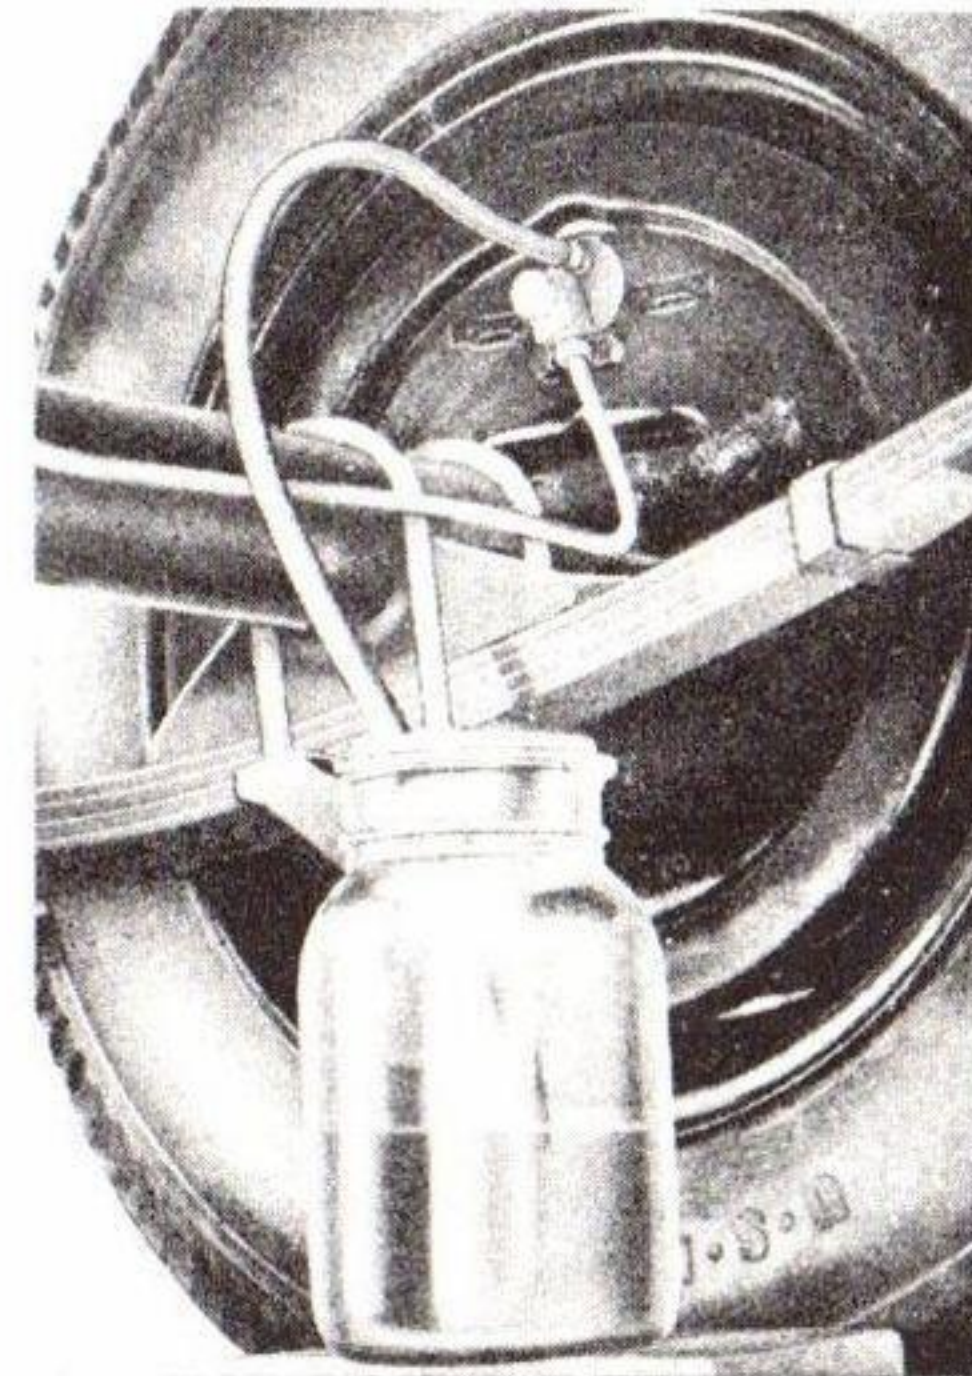

Fig. 58—Bleeding Brakes at Wheel Cylinder
4. Attach a bleeder hose to the bleeder valve at this point (fig. 58) and place the free end of the bleeder hose in a clean container having sufficient fluid to cover end of hose. Keep the end of this hose covered with fluid at all times during this operation.